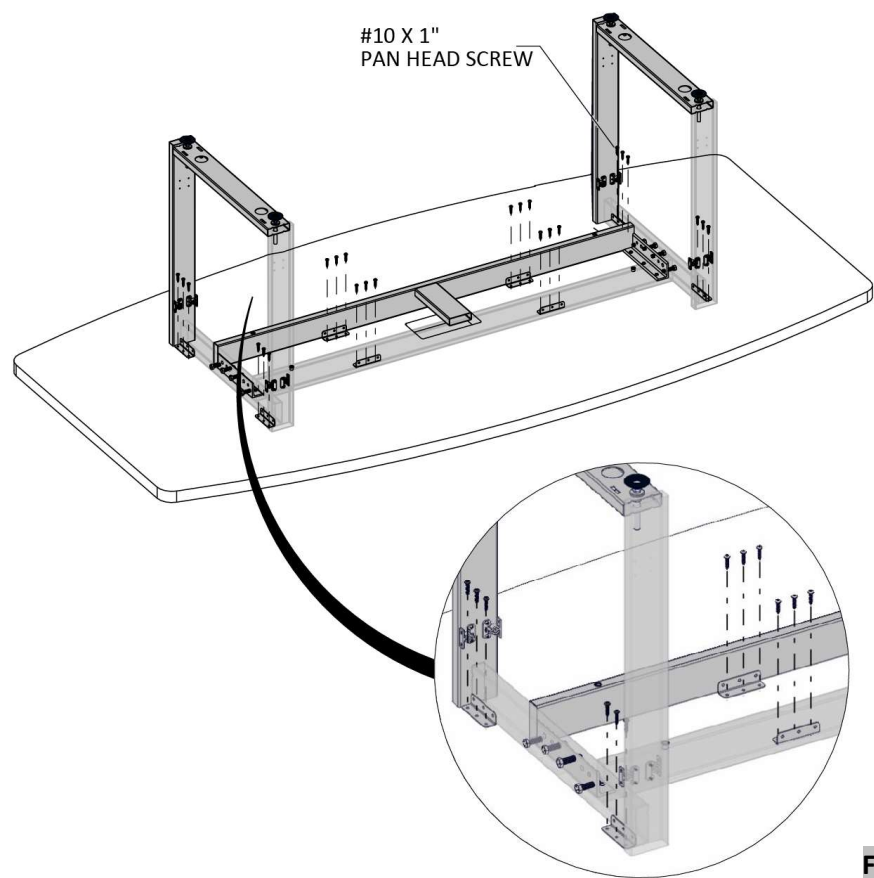

Figure 4
- Securely fasten the base, using #10 X 1" Pan Head Screws, (Figure 4).